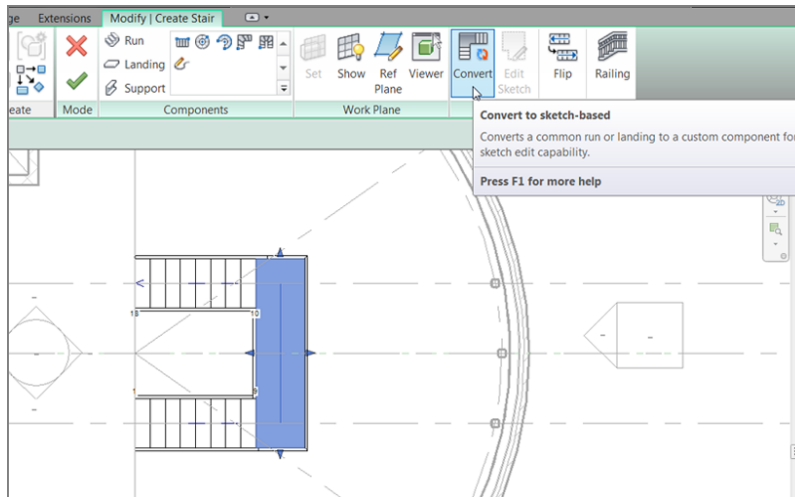

FIGURE 10.5: The Convert button
1. Select the landing, as shown in Figure 10.5.
2. Click the Convert button (see Figure 10.5).